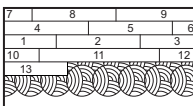

Figure 12
- Be sure not to spread adhesive too far ahead of your work area (Figure 12).